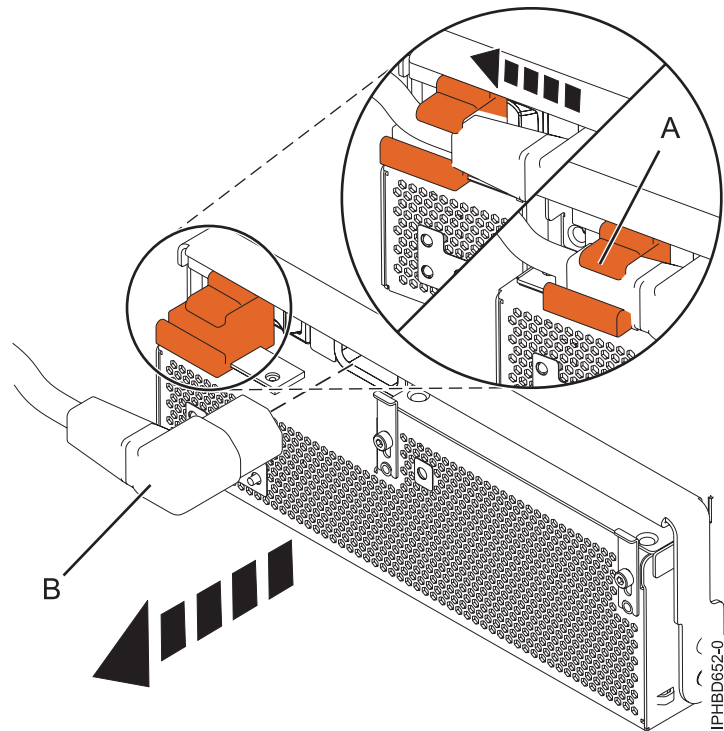

Figure 6. Disconnecting the power cable from the front of an expansion unit
6. At the front of the expansion unit, slide the cable retention bracket for the power supply that you want to remove, to the open position (A). Disconnect the cable (B) as shown in Figure 6.